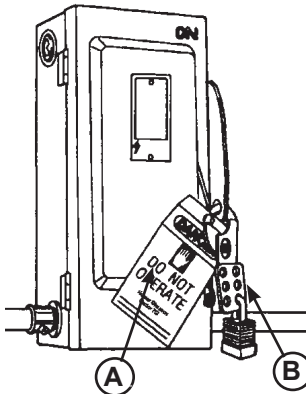

Figure 16
When working with electrical or electronic controls, make sure that the power source has been tagged (A) and locked out (B) according to OSHA regulations and approved local electrical codes (see Figure 16).